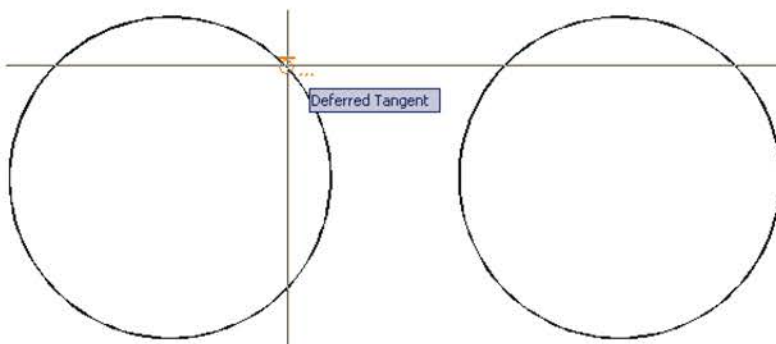
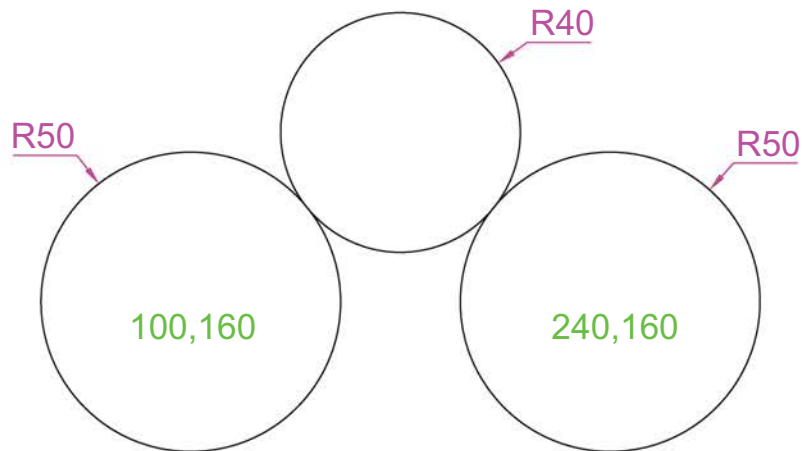

Fig. 3.14 Second example – Circle tool – the two circles of radius 50
Fig. 3.15 Second example – Circle tool
SECOND EXAMPLE – CIRCLE TOOL (FIG. 3.15)
2. *Left-click* on the **Circle** tool icon and construct two circles, as shown in Fig. 3.14, in the positions and radii shown in Fig. 3.15.
The circle of radius 40 tangential to the two circles already drawn then appears (Fig. 3.15).